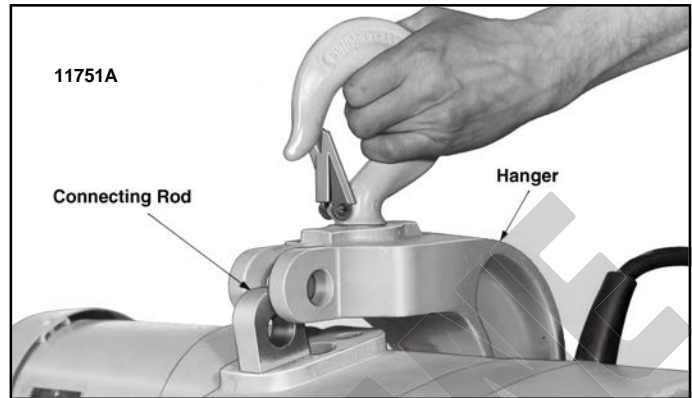

Figure 8
1. Remove connecting rod pin as shown in Figure 8. Lift hanger away from hoist far enough to provide access to hook nut located under hanger. Using a drift punch, drive grooved pin thru hook nut until it hits hanger pocket. Unscrew hook while holding hook nut with drift punch partly inserted in pin hole of nut to prevent nut rotation, Figure 9. Remove hook and nut.